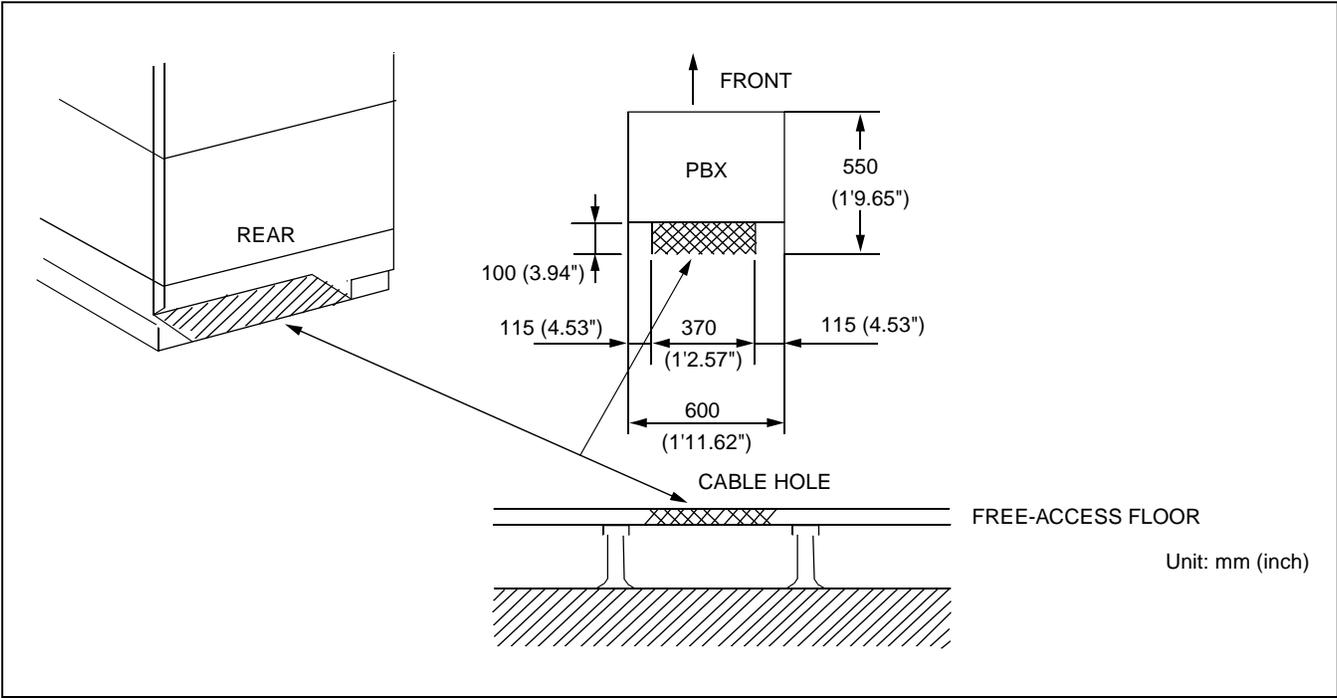

Figure 002-2 Cable Hole on a Free-Access or Computer Floor
- Cutting of Free-Access Floor _____ Cut the Free-Access Floor with a jigsaw. (See Figure 002-2.)